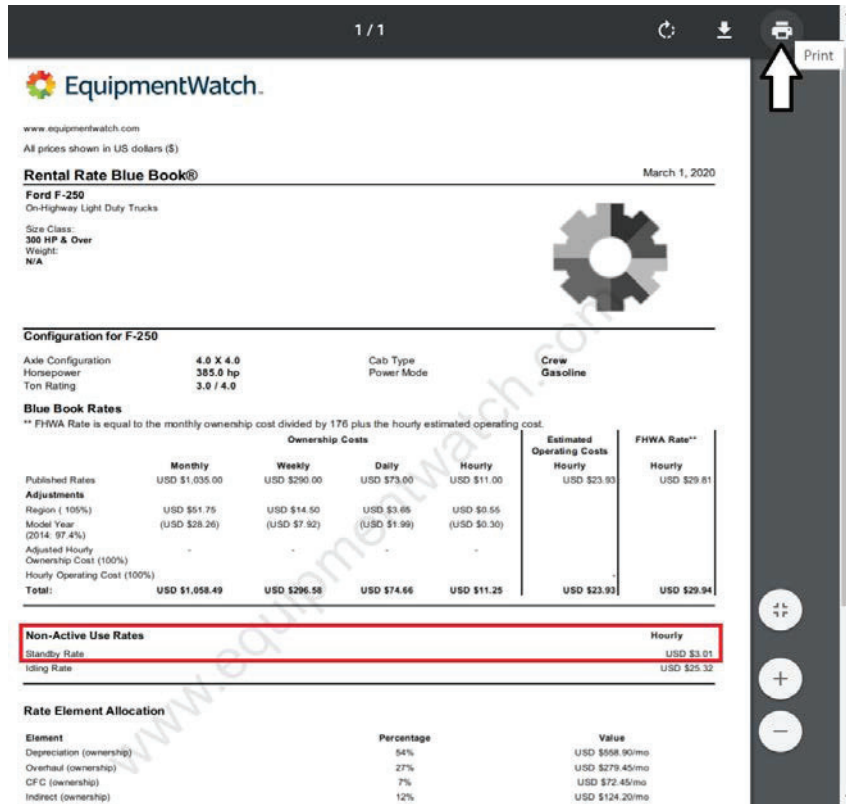

Figure 4-13: EquipmentWatch Equipment Rates Report
- vi. The Rental Rate Blue Book report opens in a new browser tab. Click the Print icon (Figure 4-13).